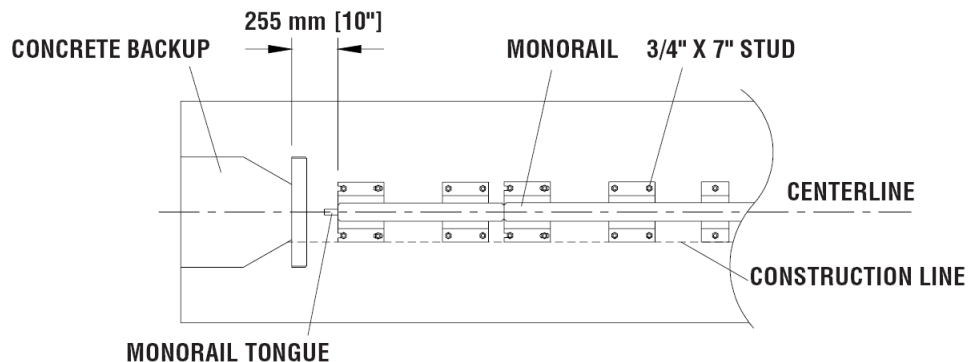

Figure 20
Locate Tension Strut Backup and Monorail on foundation with side of Monorail on the construction line (Figure 20 on p. 27). **Verify that any applicable Transition Panels fit properly before anchoring Backup.** Drill 7/8" [22 mm] diameter by 5 3/4" [145 mm] deep anchor boreholes in foundation using the Backup as template. Anchor the Backup to the concrete foundation using an approved adhesive supplied with the QuadGuard II (p. 16).
A) Monorail Placement for Concrete Backup (Figure 20)
Locate Monorail on foundation with side of Monorail on the construction line and rear edge of Monorail foot 10" forward of front face of Concrete Backup (Figure 20).
Orient the Monorail so that the Monorail tongues face Backup (Figure 20).
Anchor each Monorail section using an approved Valtir adhesive kit. See Figure 20 and the approved adhesive instructions included with the adhesive kit. It is important to attach each segment of Monorail in alignment from the back to the front of the system ($\pm 1/4"$ [6 mm]).